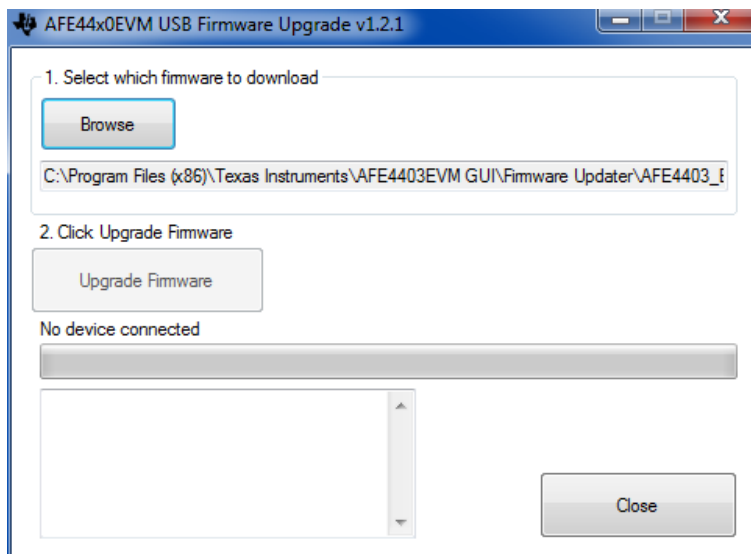

Figure 36. Firmware Loader Application: Select Firmware
2. Click the **Browse** button and load the AFE4403 firmware. Figure 36 shows the firmware loader application with the appropriate firmware selected. The firmware is located in the "C:\Program Files(x86)\Texas Instruments\AFE4403EVM GUI\Firmware Updater" directory.